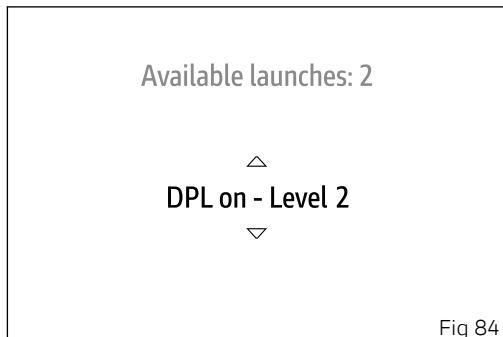

Fig 84
The screen for selecting the level for the assisted start (Fig 84) is displayed. Use buttons (1) and (2) to select the desired level (1, 2, 3) or the "Exit" item. Press the ENTER button (3) for 2 seconds to confirm the selected level.